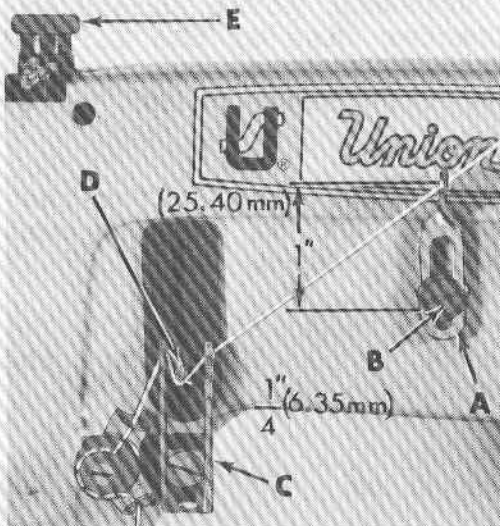

Fig. 18
The "U" shaped eyelet (C, Fig. 18) should be set to allow the spreader thread to engage the bottom of the needle lever eyelet (D) by 1/4 inch (6.35 mm). Raising the eyelet makes a looser cover thread, lowering same makes a tighter cover thread.
Regulate the presser spring regulating screw (E, Fig. 18) so that it exerts only enough pressure on the presser foot to feed the work uniformly when a slight tension is placed on the fabric. This is the knurled screw, located directly behind the needle bar in the head of the machine. Turning it clockwise increases the pressure, counterclockwise acts the reverse.